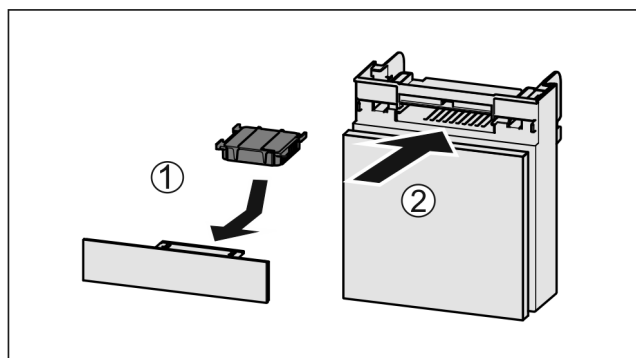

Fig. 87
- Insert the carbon filter as shown in the diagram Fig. 87 (1).
- Push the compartment in Fig. 87 (2).